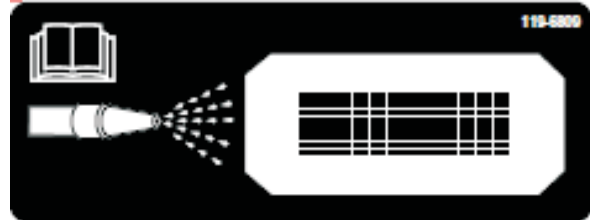
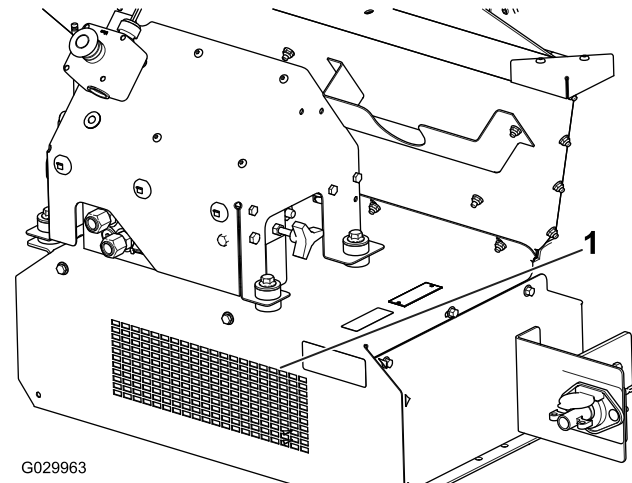

Figure 57
Figure 58
10. Locate the clean-out decal on the front of the machine (Figure 57), using a garden hose, spray through the front guard mesh until the belly pan is completely clear of material (Figure 58).